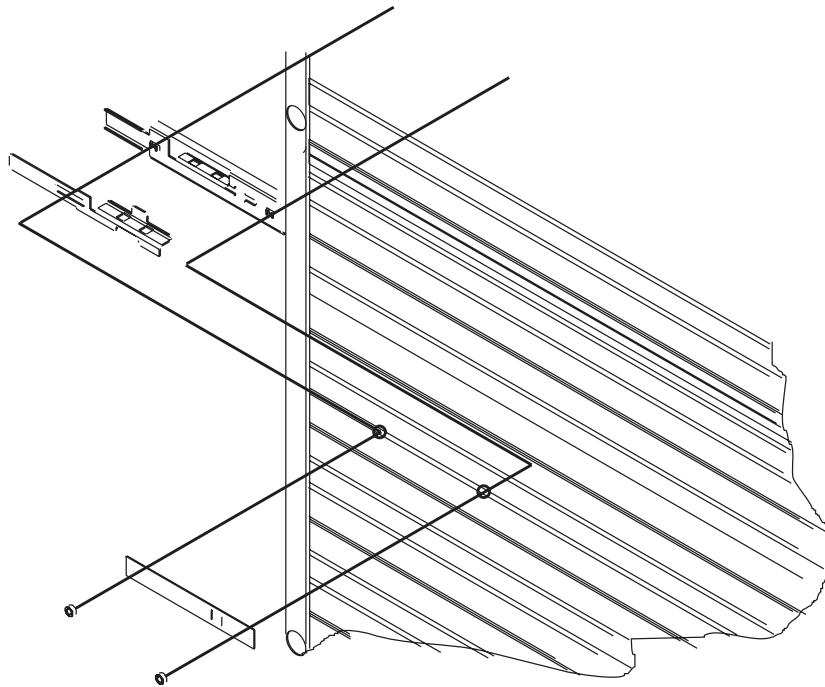

FIG 22
• Install curtain lock in pre-punched holes using hardware provided. See Figure 22. Apply felt strips over nuts on back side of curtain.